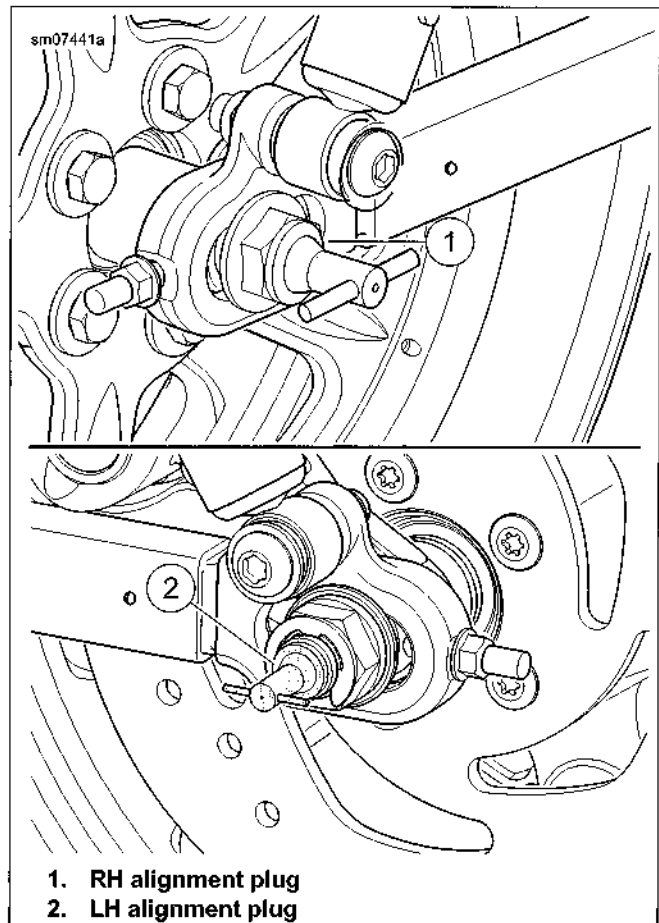

Figure 1-49. Axle Alignment Plugs
- See Figure 1-49. Insert alignment plugs (1, 2) from AXLE ALIGNMENT PLUGS (Part No. HD-48856-A) into right and left ends of rear axle. Turn handle until plug is firmly held in axle.